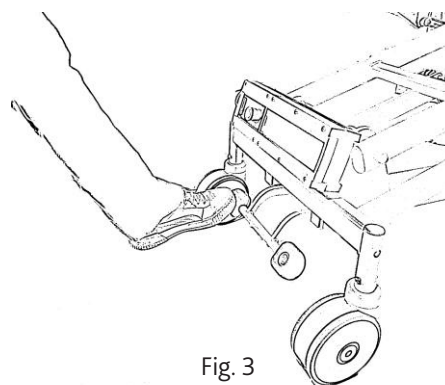

Fig. 3
11. Apply the central brake on the Coral shower trolley (see Figure 3)
6. Apply the Coral shower trolley's central brake (see Figure 3).